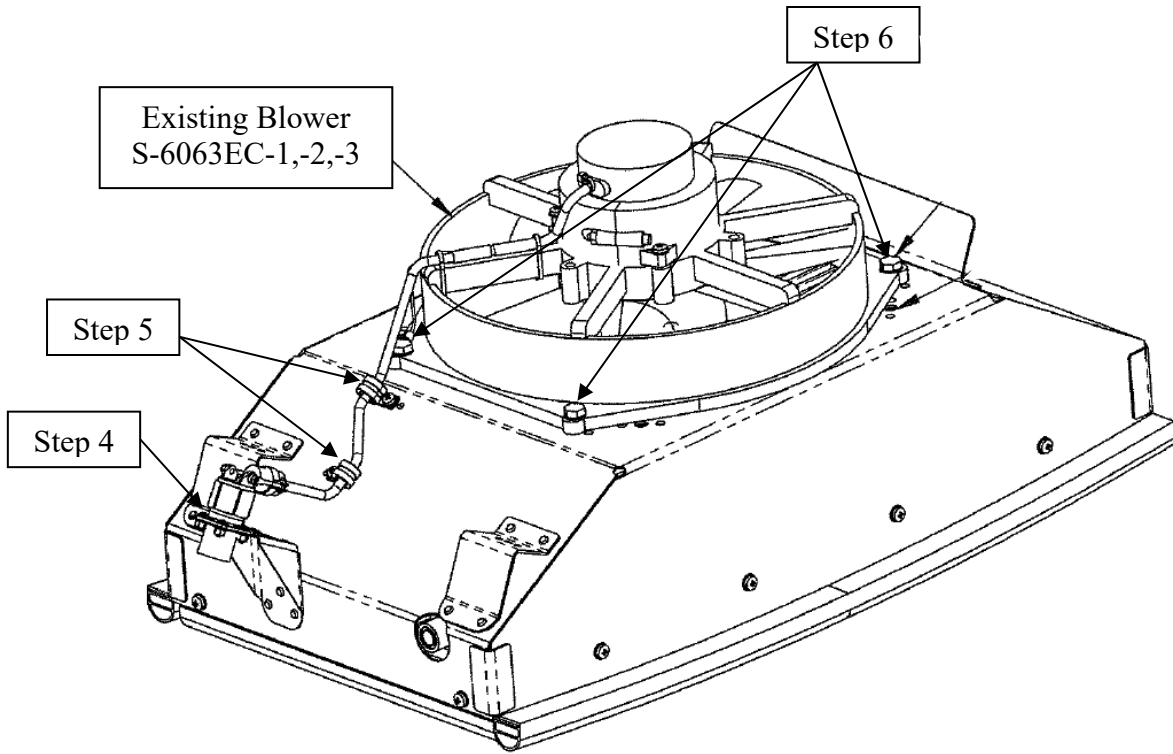

Figure 1. Existing blower on the condenser assembly
#### Removal: (See Figure 1)
3. Disconnect the blower electrical connector (see Fig. 1).